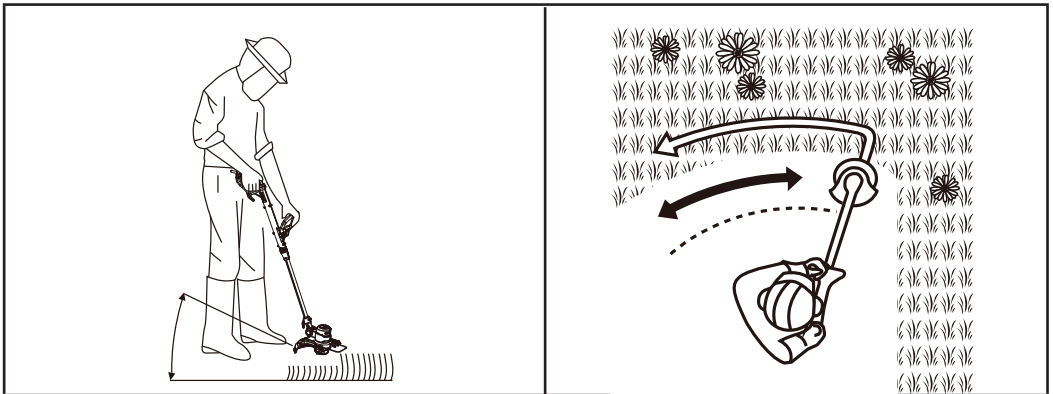

Fig. 9
- Make sure your stance is stable and hold the machine tightly with both hands at the upper handle (1) and the auxiliary handle (6).
- Adjust the main handle (1) angle to 0° for trimming.
- Hold the cutting head (15) just above the ground at an angle of approximately 30° (Fig. 9).
- Move the machine with a slow regular arc from left to right before moving it back to the starting position before trimming the next area (Fig. 9).